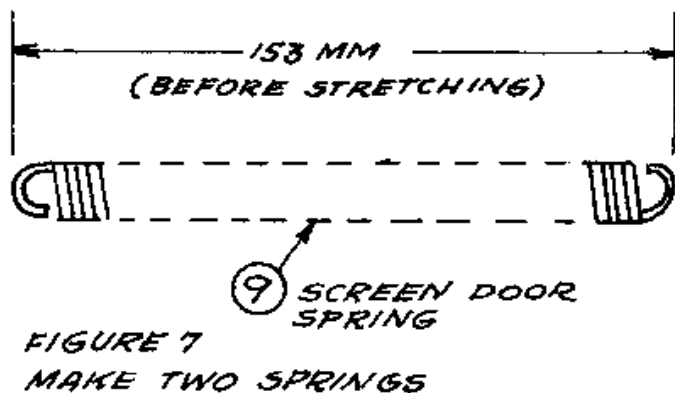

**FIGURE 1**
8. Mild steel bar, 19mm x 6mm x 7cm (3/4" x 1/4" x 2 3/4"). Four are needed (see Figure 1). They are welded to No. 2 to complete the cradle for the